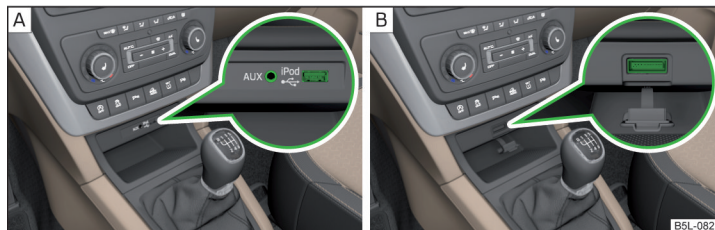

Fig. 101 Installation locations of the AUX, USB and MDI inputs
The MDI input is above the storage compartment in the front centre console » Fig. 101 - **A**) and is identified with the labelling **iPod** and by the symbol .
The MDI input is above the storage compartment in the front centre console » Fig. 101 - **B**) and is identified with the labelling **MEDIA IN** on the covering cap.
- ▶ Above the storage box of the front centre console » Fig. 101 - **A**).